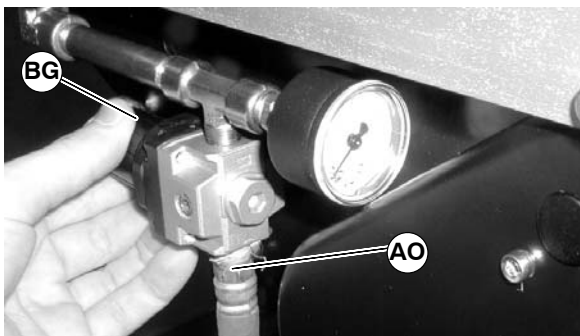

Figure 34
1. Connect air supply (AO of Figure 34) to regulator (BG).
2. Adjust regulator (BG of Figure 34) until gage reads the appropriate pressure. See following table for suggested pressures.